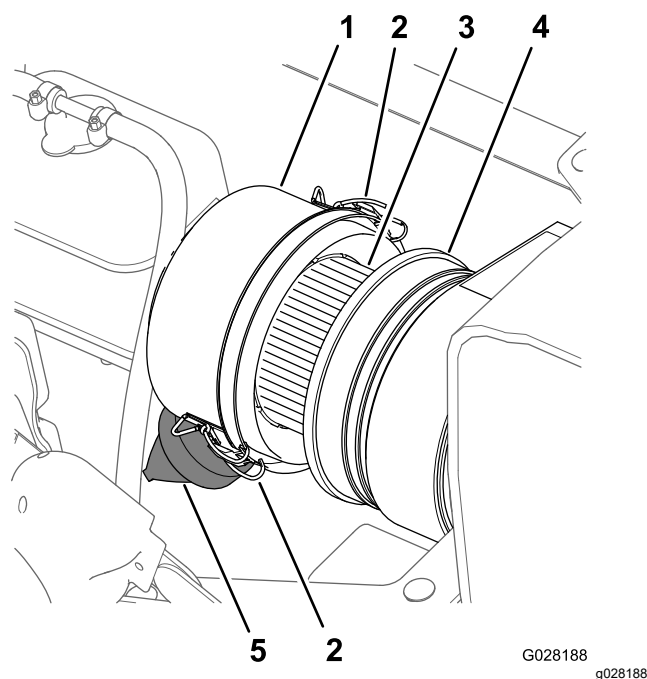
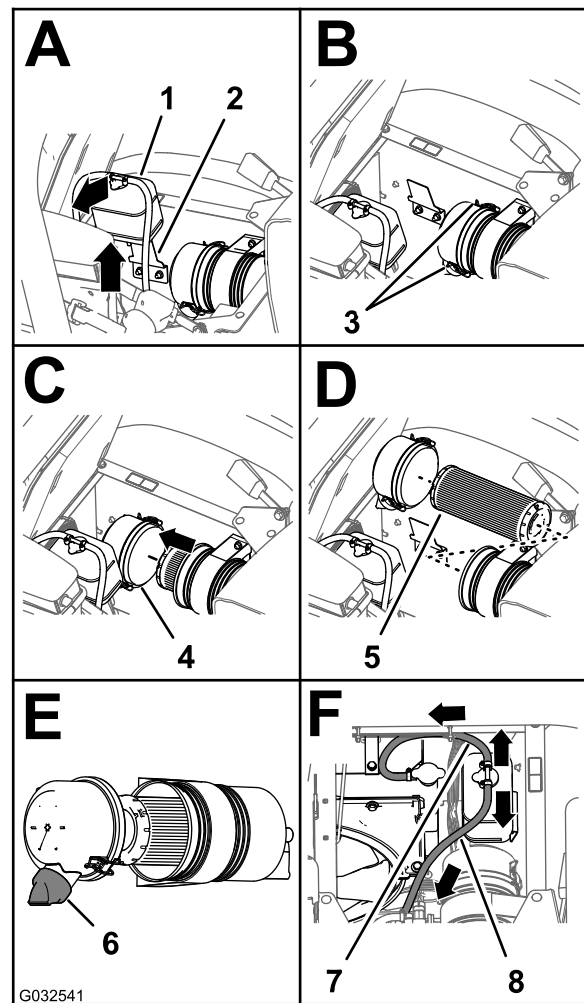

Figure 110
Figure 111
3. Clean the dust cap and air-cleaner body (Figure 110).
4. Check the air-cleaner body for damage that could cause an air leak (Figure 110).
5. Squeeze the dust valve to clear it of dirt, dust, and debris (Figure 110).
7. Check the air-filter element for excessive accumulation of dust, dirt, and debris (Figure 110).
8. Install the dust cap onto the air-cleaner body and secure the cap with the 2 latches (Figure 110).
2. Clean the dust cap and air-cleaner body (Figure 110).
3. Lift the coolant-overflow tank up and off the tank-support bracket (Figure 111).
4. Loosen the 2 latches that secure the dust cap to the air-cleaner body (Figure 111).
6. Clean the inside of the dust cap, air-cleaner body, and dust valve with a damp rag (Figure 110 and Figure 111).
7. Insert the air-filter element into the air-cleaner body (Figure 111).
8. Install the cover onto the air-cleaner body and secure the cover with the 2 latches (Figure 111).
Note: Ensure that the dust valve is aligned between the 5 to 7 o'clock position when viewed from the end (Figure 111).
9. Align the coolant-overflow tank to the tank-support bracket and seat the tank firmly (Figure 111).
Important: Ensure that the pressure-relief hose is routed forward and down, and the tank-vent hose is routed rearward as shown in Figure 111.